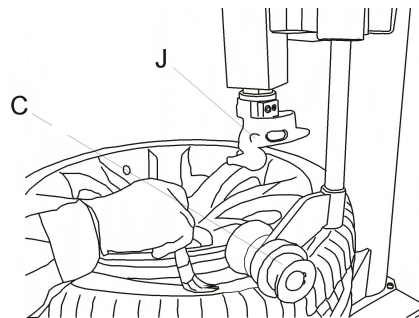

Fig9
1. Press tyre with right pressing roller C,G to a position 3cm lower than rim edge, lubricate tyre bead, rotate turntable, lift roller C,G. (Fig 9)